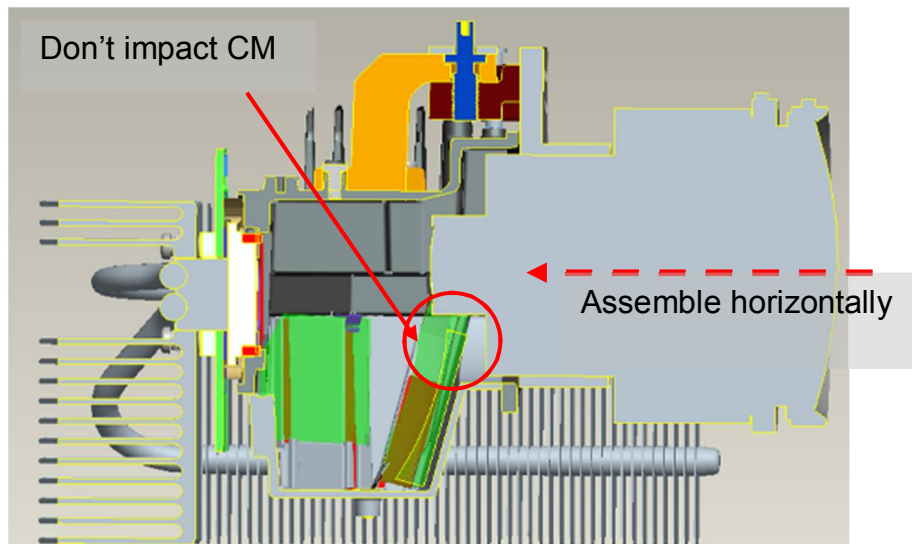

Fig. 7-1
- i. Assemble Lens and the Assembly direction must be horizontal , and do not impact CM. (Fig. 7-1)